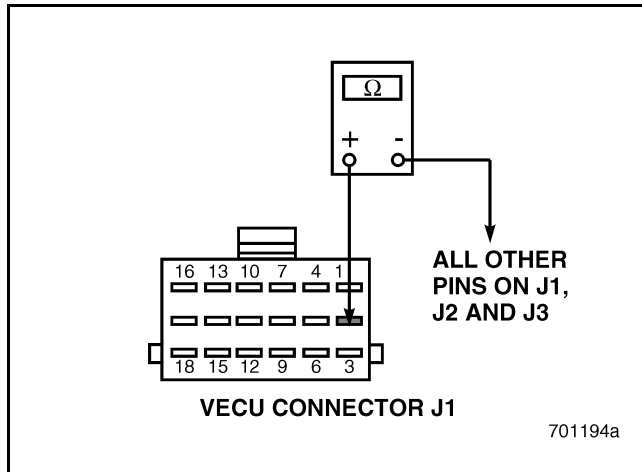

Figure 95
5. Check for continuity between VECU connector J1 pin 2 and all other pins on VECU connectors J1, J2 and J3 (see Figure 95).